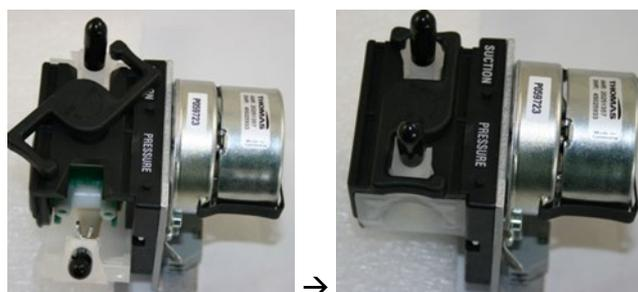

Fig.3
- ▶ Close the anchorage (Fig.3).